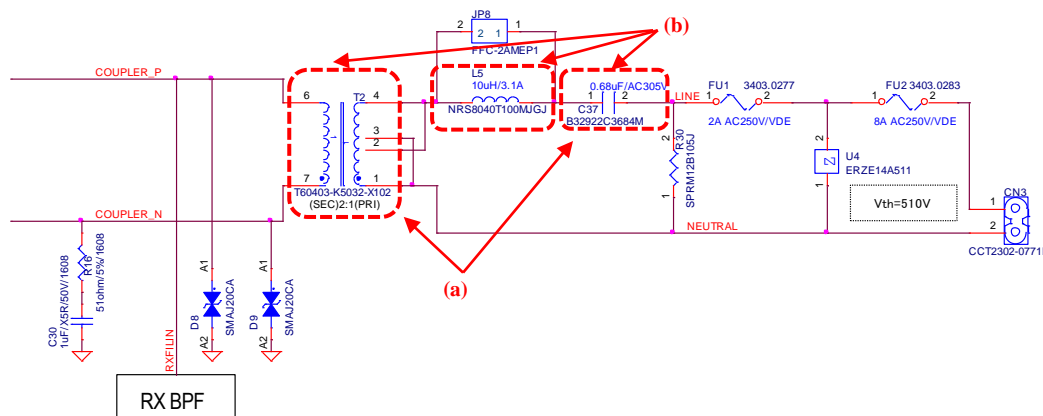

Figure 3-17 Example of impedance measures for EN50065-7 in CENELEC-A band
- The RX impedance at 3kHz-9kHz may not meet the EN50065-7 compatible impedance standard due to the resonance of C37 and T2 (main inductance). To move the peak due to the resonance to the outside of 3kHz-9kHz, it is recommended to set C37 = 0.68uF for the main inductance when using 2:1 of T2 in the part (a) of Figure 3-17.
- The TX impedance at 95kHz-148.5kHz may not meet the EN50065-7 compatible impedance standard due to the resonance frequency of C37 and (L5 + T2(leakage inductance)) in the part (b) of Figure 3-17. Set so that the resonance frequencies of L5 + T2 (leakage inductance) and C37 are within the band of CENELEC-A band. If C37=0.68uF, it is recommended to insert L5=6.8uH.